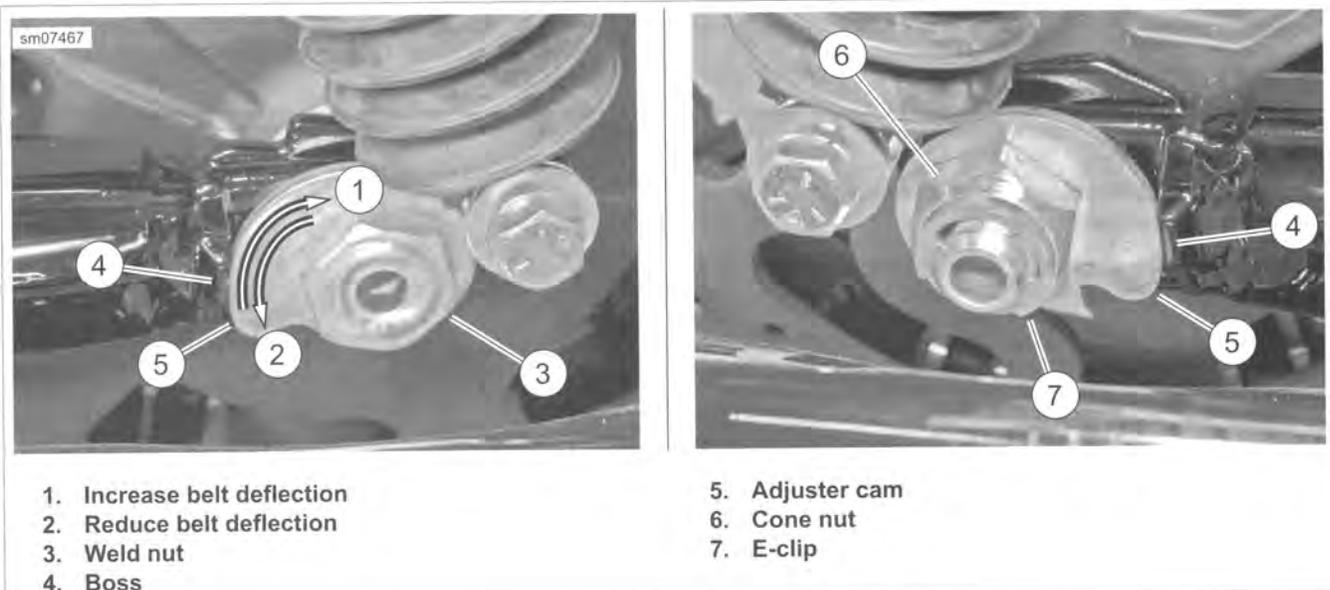

Figure 1-28. Rear Wheel Adjuster Cams
7. See Figure 1-28. Push wheel forward and verify that cam (5) contacts boss (4) on both sides of rear fork.
8. For purposes of adjustment only, snug the cone nut (6) to 15-20 ft-lbs (20-27 Nm).
10. See Figure 1-28. Rotate weld nut (3) on left side of axle to adjust belt tension; clockwise to tighten or counterclockwise to loosen. If loosening the belt tension, push the wheel forward. Verify both cams (5) touch the bosses (4) on both sides after the weld nut is rotated.